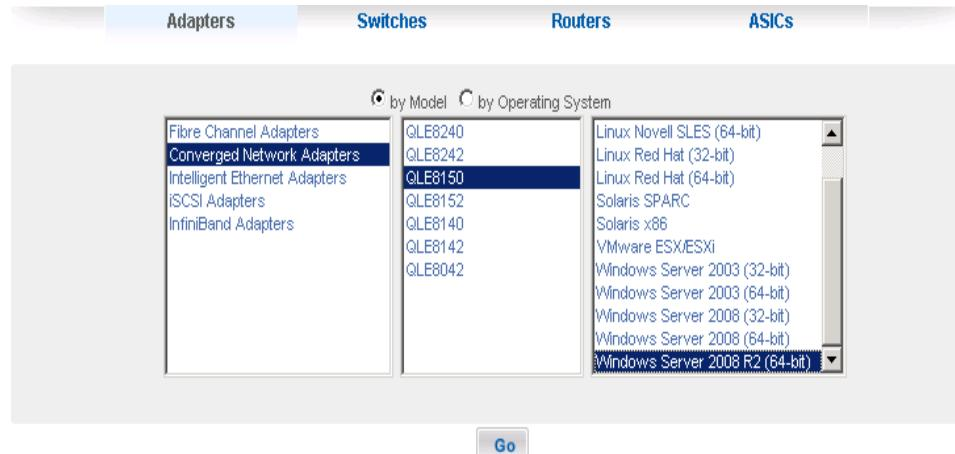

Figure 3-1. Select an Adapter and a Windows Operating System
6. In the third column, click the version of the Microsoft Windows operating system that is installed on the server. For example, in **Figure 3-1, Windows Server 2008 R2 (64-bit)** is selected for a QLE8152 adapter.